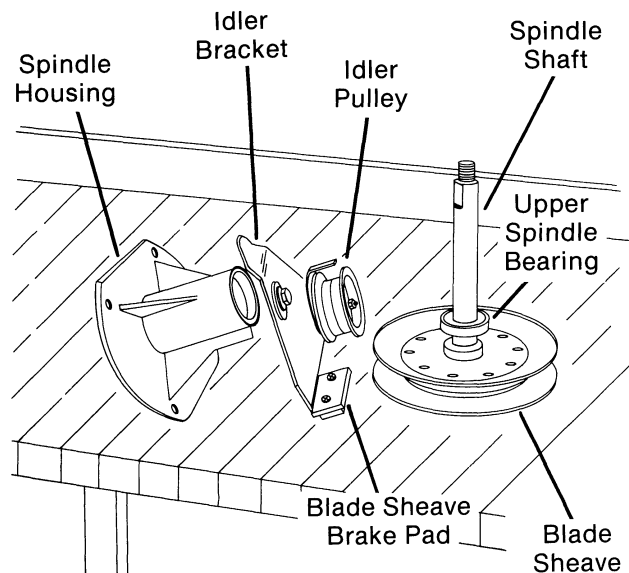

FIG. 16
- K. At this time, all parts of mower spindle assembly can be checked for damage or excessive wear. Check following parts and replace if necessary. (Fig. 16)